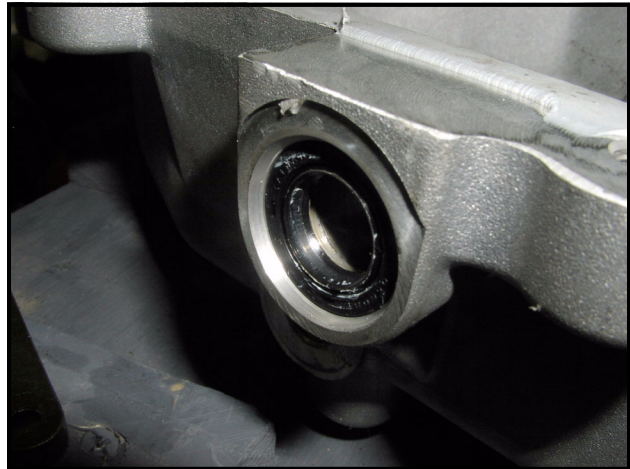

Figure 8-44 Shifter Shaft Seal
4. Use a small bearing puller and remove the shifter shaft seal from the case (**Figure 8-44, Page 8-14**).
1. Slide a new shifter shaft seal into the case and seat it by tapping on it using a small socket or tube slightly smaller than the outside diameter of the seal (**Figure 8-44, Page 8-14**).